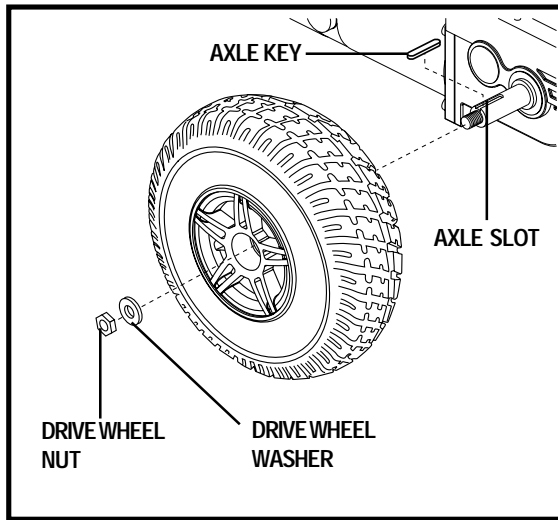

Figure 24. Jet 3 Ultra Drive Wheel
4. Remove the drive wheel nut and washer from the axle. See figure 24.